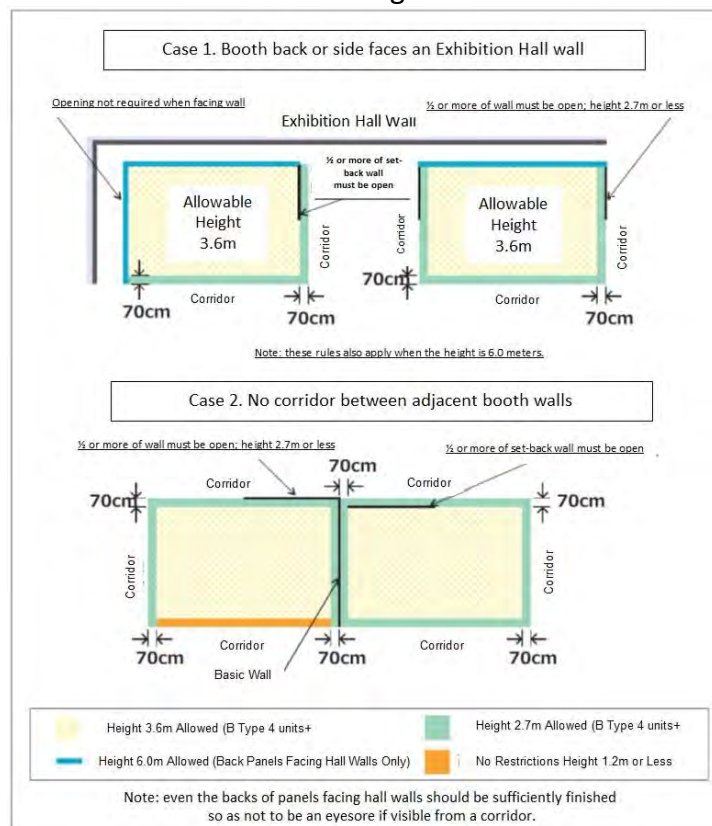
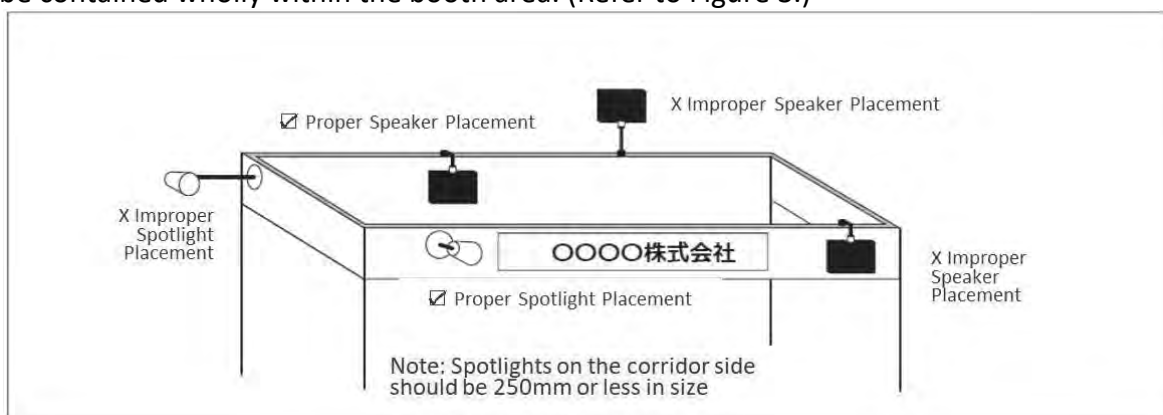

Figure 2. Limitations on Booth Height and Required Openings
Figure 3. Examples of Proper and Improper Placement of Speakers and Spotlights
(1) Limitations on Booth Height (see Figure 2)
(2) Required Wall Openings on Booths (refer to Figure 2.)
(3) Construction of Ceilings
(4) Decorations and Installations in Booths
- All speakers, spotlights, borders, company signs, etc. must be installed according to exhibition guidelines and must be contained wholly within the booth area. (Refer to Figure 3.)